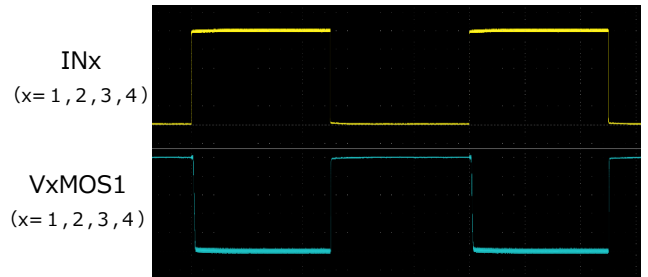
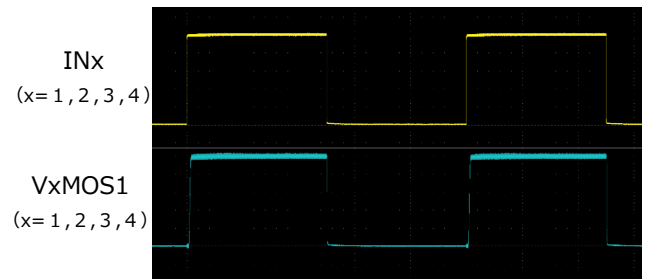

Figure 5. In/Out waveform image(sink-type)
Figure 6. In/Out waveform image(source-type)
- Figure below shows the input/output waveform image when using BM79330FV-LB with VIO=5.0V, RL=510Ω, and a digital signal input to the IN terminal (Figure 5, Figure 6).